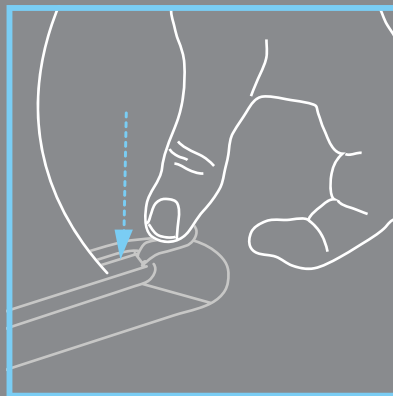

Figure 2.
- Firmly push the other end of the fin down and lock into place by pushing the end clasp back down (**Figure 2**).